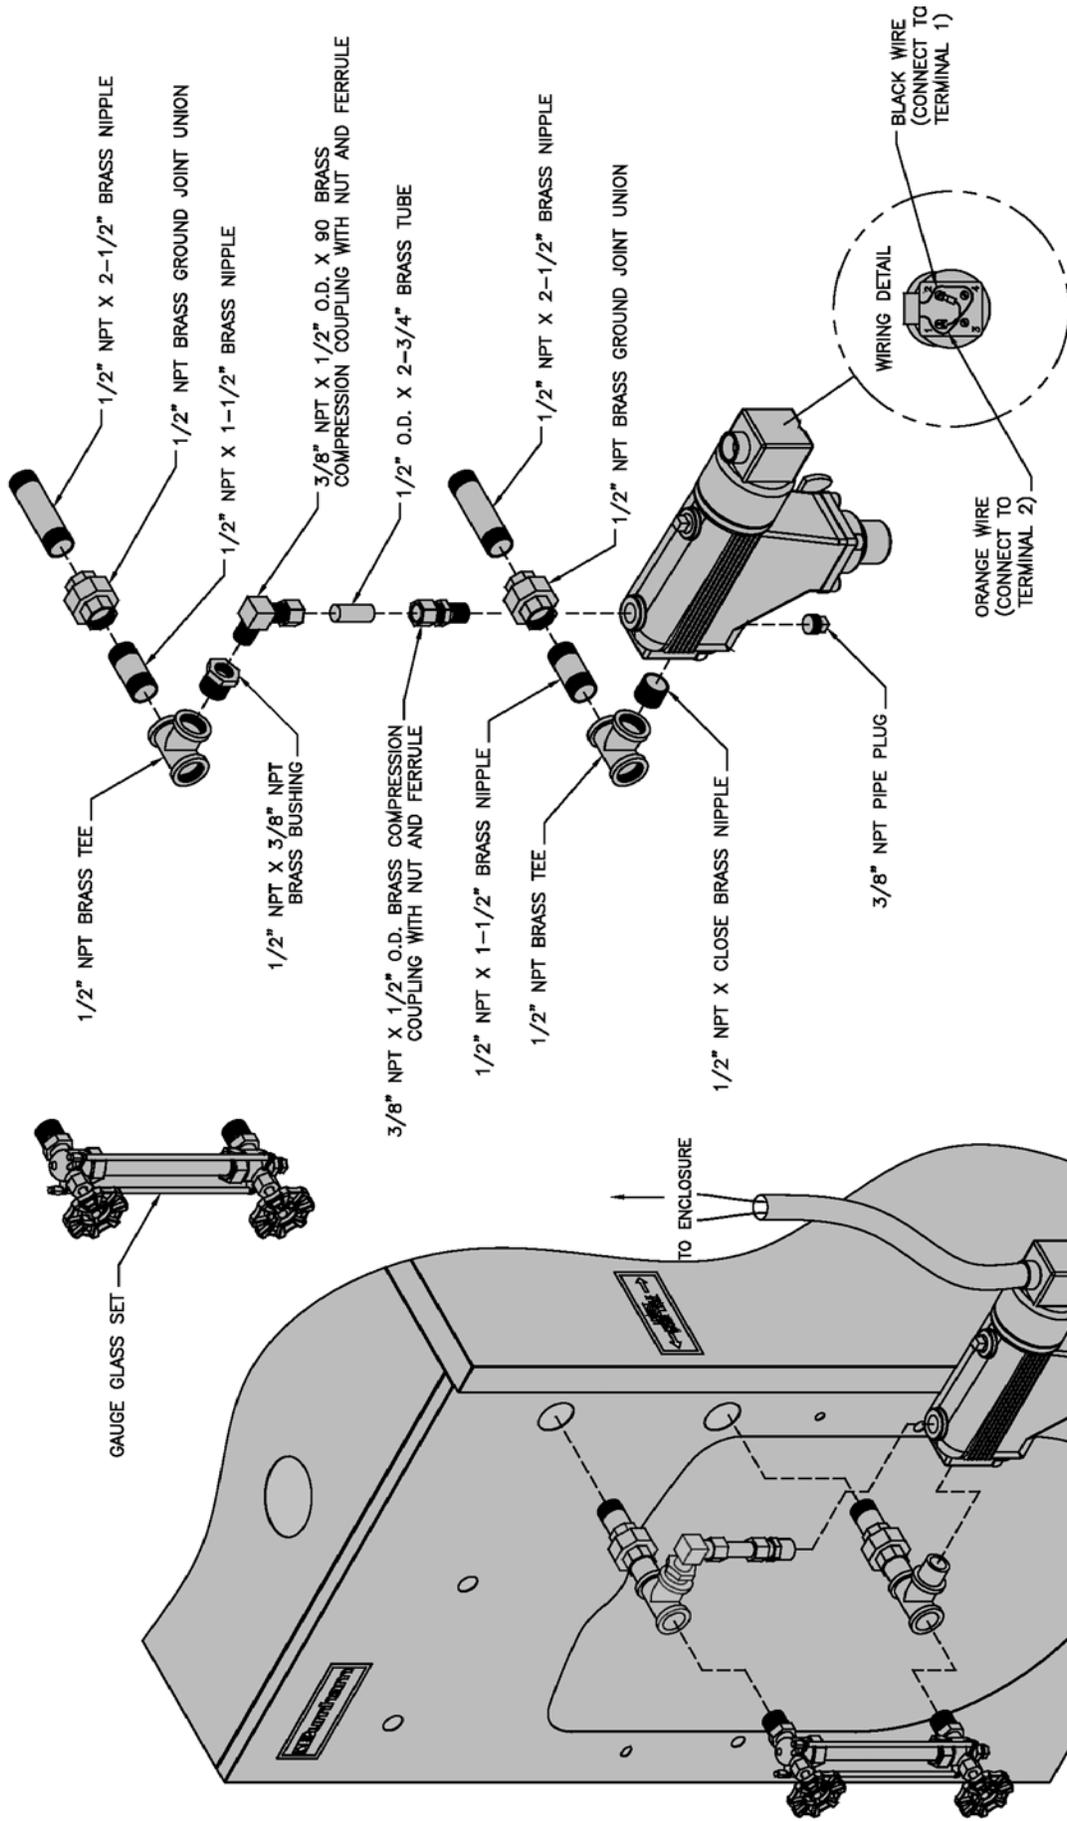

Figure 9: Float-Type LWCO and Pressure Limit Installation
1. Pre-assemble float-type LWCO per Figure 9 "Float-Type LWCO and Gauge Glass Installation".
7. Screw LWCO to External Wiring Enclosure wiring harness (end with fork and female disconnect terminals) connector into low water cut-off J-box top fitting, and attach wires to the terminals per LWCO wiring detail shown in Figure 9 "Float-Type LWCO and Gauge Glass Installation".